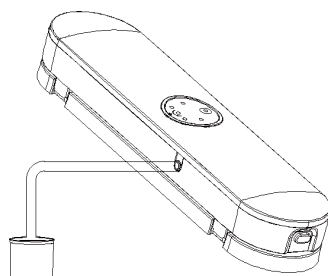

Fig.5
3. Insert both ends of the suction pipe into the outside suction opening of the machine and the suction opening on the fresh-keeping tank or box cover respectively to ensure that the fresh-keeping tank or box is in a sealed state, as shown in Figure 5.